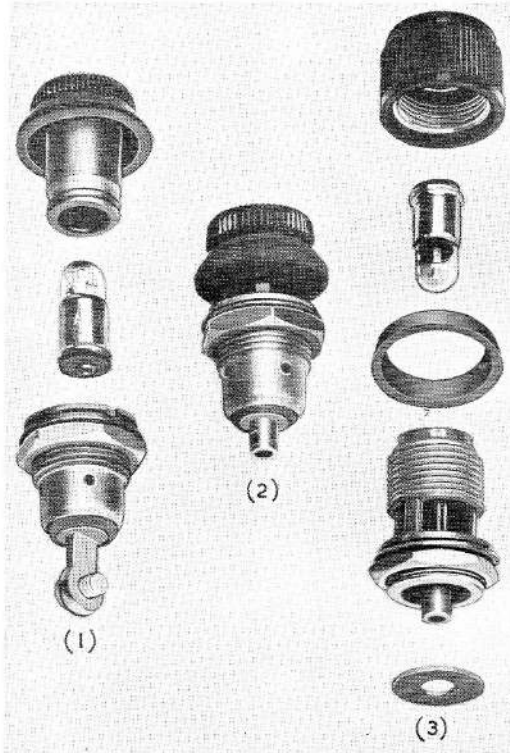

Fig. 1. Lampholders: (1) Type A, No. 1; (2) Type A, No. 2; (3) Type B
1. The Types A and B lampholders, shown in fig. 1, are used for introducing light into the cross section of a plastic panel. The red transparent polystyrene tube, covering the filament lamp allows light to radiate around its circumference. A soft rubber sealing washer over the end of the tube prevents light escaping round the edge of the unit. The Type A is flush fitting and the Type B is a surface fitting, the latter being used where
3. This lampholder is in two parts, the base being the main assembly, the cap assembly and seal forming the other. The base contains the polystyrene tube, together with the insulated centre connection. The metal bridges connecting the cap thread to the base forms one electrical connection, the other one from the insulated centre, being brought up on the inside of the polystyrene tube. The cap assembly is a moulded screw cap containing a spring-loaded metal centre. A light seal is also provided for this type. The three types are shown in fig. 1.